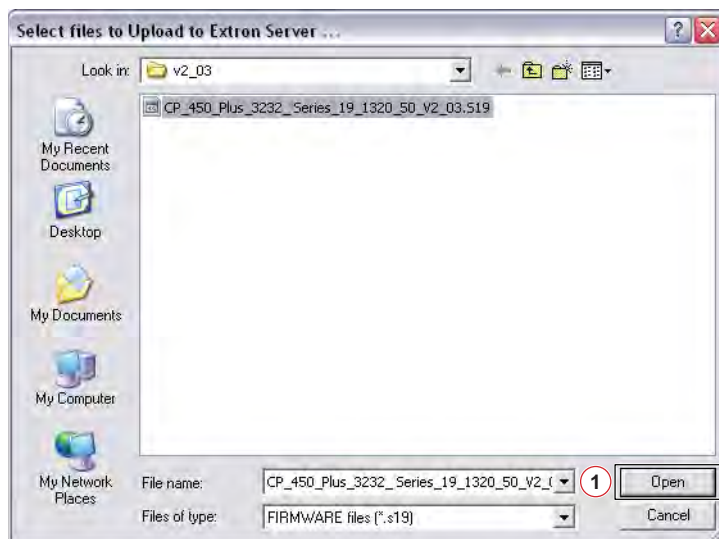

Figure 69. Select File Window
5. Connect a Windows-based computer to either the Remote RS-232/RS-432 port (see item ⑥ on page 26), the front panel Configuration port (if equipped, see item ① on page 30) or the LAN port (see item ⑨ on page 27) of the switcher.
- **If the switcher is connected via the LAN port**, the select file window appears (see figure 69 and “Ethernet-connected firmware upload,” below).